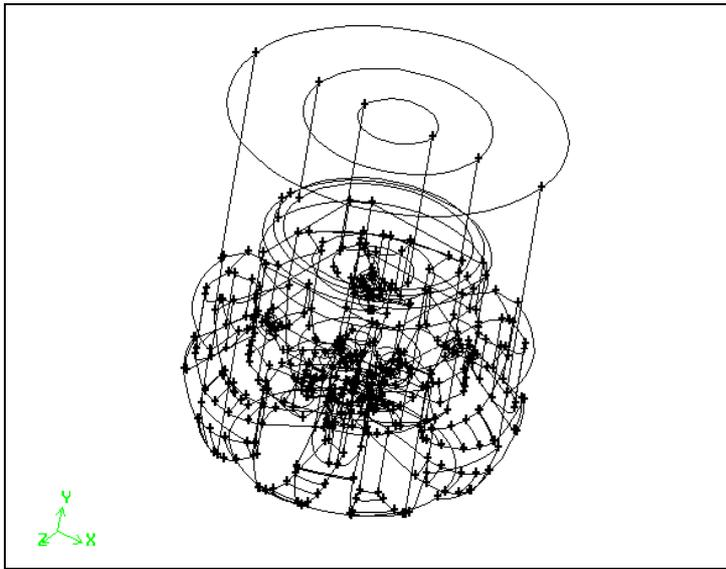

Figure 12-3: Industrial drill bit—directly imported Pro/ENGINEER part file
NOTE (2): You can reproduce the perspectives of the figures in this tutorial by means of window matrix commands available in a journal file named “tg12_figures.jou,” which is included in the “help/tutfiles” online help directory. To exactly reproduce the perspective of any figure, you must open the journal file and execute the window matrix command associated with the figure. For example, the following command reproduces the perspective of the model shown in Figure 12-3.
GAMBIT imports the part file and displays the geometry shown in Figure 12-3.